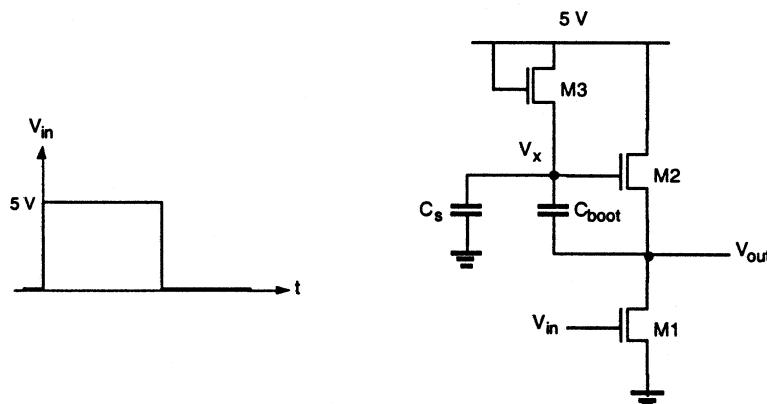

Figure P9.4
- 9.4** Bootstrapping circuits are used to increase the gate voltages of transistors such that the drain node voltage can be pulled high (despite the threshold voltage drop). The circuit shown in Fig. P9.4 can be used for such purposes and can indeed increase the node voltage at X well beyond  $V_{DD}=5$  V. Determine the maximum achievable voltage at node X using the following parameters: